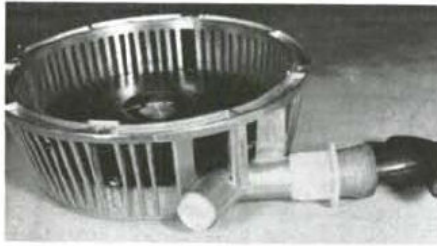

Fig. 19—Recoil starter of the type used on most models.
**RECOIL STARTER.** The basic recoil starters can be assembled for clockwise or counter-clockwise engine rotation, although some of the parts may not be machined for counter-rotation. Fig. 19 shows a removed starter correctly assembled for normal rotation (counter-clockwise viewed from drive end).